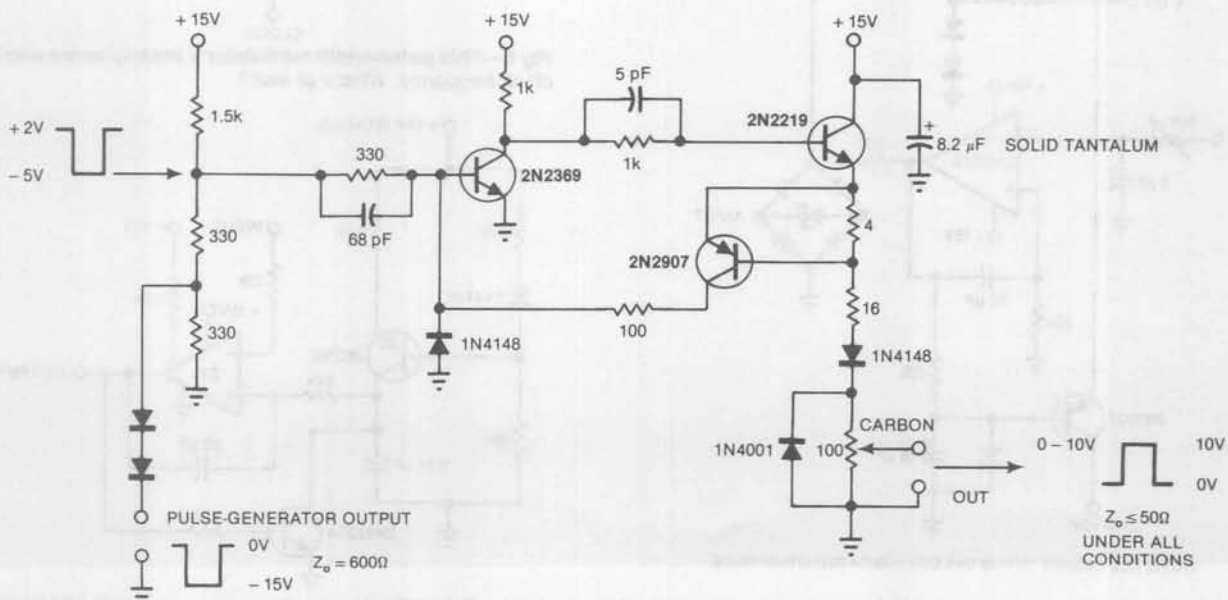

Fig 1—Reconfigure this converter to correct its shortcomings: 30-nsec rise time and duty-cycle inversion.
2. The circuit shown in Fig 1 converts the negative-going output of pulse generators used in vacuum-tube work into a positive-going output compatible with solid-state circuits. Its low-impedance output is fully variable and capable of withstanding shorts to ground or either power-supply rail. This circuit works well, with two exceptions: First, the output appears as the inverse of the input, and second, the output pulse's rise time is about 30 nsec—a respectable time span that's nonetheless relatively short for a pulse-generator output. Reconfigure the circuit to correct these deficiencies, using a minimum number of component